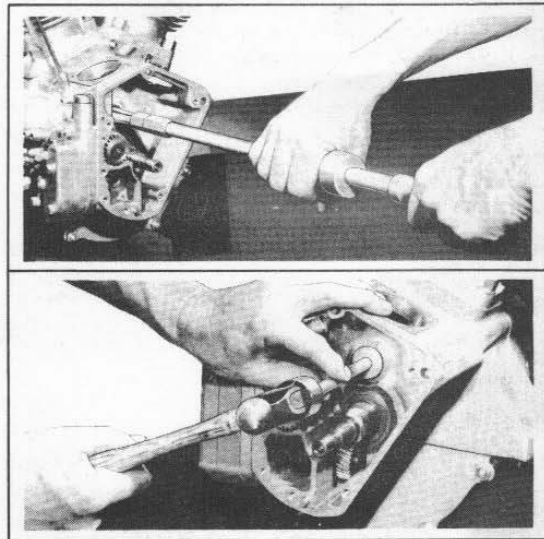

Figure 3-34. Removing and Installing Cam Gear Needle Bearing
2. Inspect oil screen (4) carefully to make sure mesh is open. Holding screen to light is not an absolute check. It is possible for oil screen to be plugged or partially plugged with tiny lint-like fibers and still permit light to pass. Replace plugged or partially plugged screen.
4. Inspect cam gear oil seal (35) in cover to see that lip is in good condition.
6. Inspect needle bearing (36) for wear, broken or gouged bearings. If end of camshaft shows any appreciable wear (.003 in. or more), needle bearing is probably worn to a point where replacement of bearing and camshaft are advisable.
7. Needle bearing can be removed and installed in crankcase without disassembling crankcase with Puller Tool, Part No. 95760-69 as shown in Figure 3-34. Press needle roller bearing into crankcase with Tool, Part No. 97272-60 as shown in Figure 3-34. Press from heavier end having the manufacturer's name only. Pressing from opposite end will crush roller race and bind rollers. Pinion shaft main roller bearing may be replaced only when crankcase is disassembled (see "Disassembling Crankcase.")